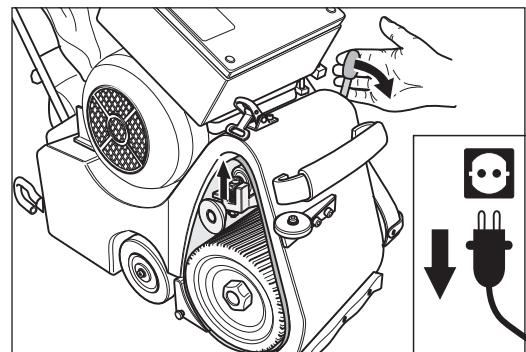

Fig. 11 Press the operating lever of the drive unit down.
- 11 To tighten the sanding belt press the operating lever of the drive unit down (Fig. 11).
- 6 To tighten the sanding belt press the operating lever of the drive unit down (Fig. 11).